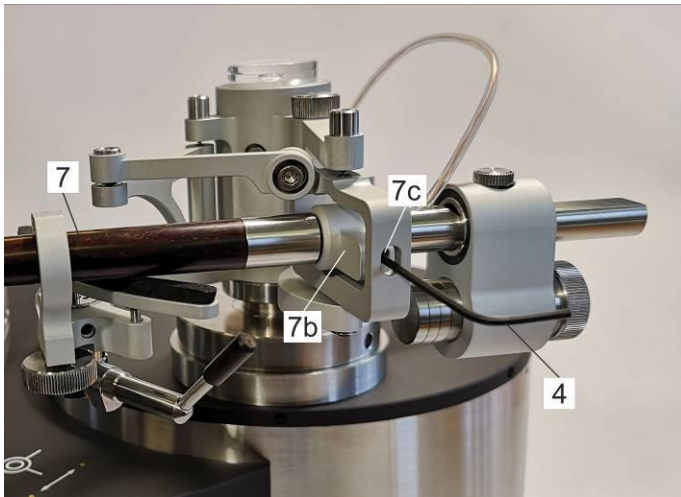

Figure 24
6. Azimuth adjustment (Figure 24)